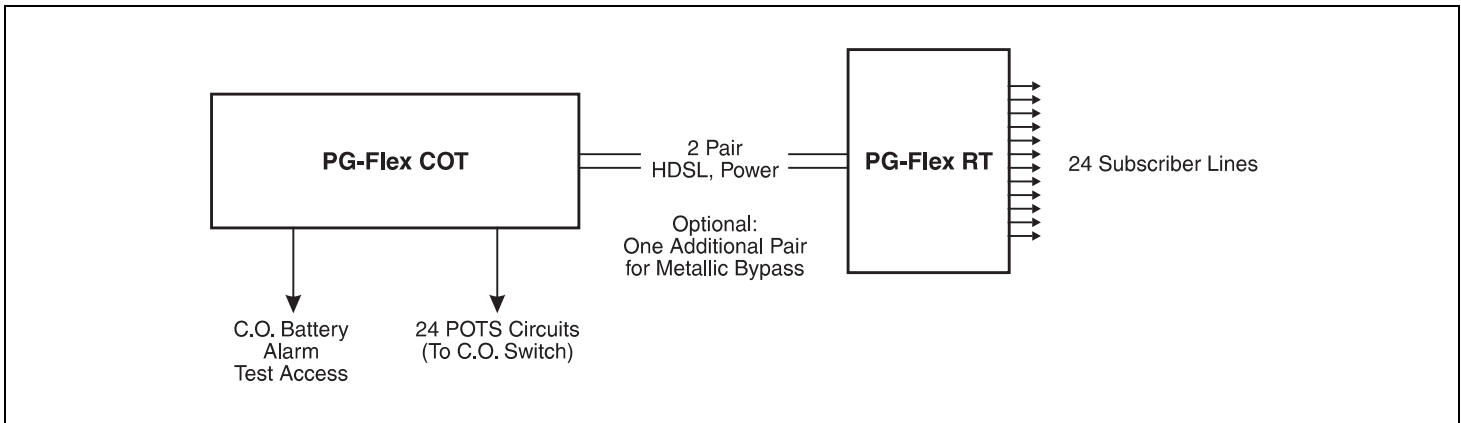

Figure 2. Typical PG-Flex Configuration.
2.02 System Flex Configuration. A PG-Flex system, shown in Figure 2 consists of:
2.05 For the system configuration shown in Figure 2, the maximum distance between the COT and the RT is 12.3 kft (3.8 km), assuming the HDSL lines are 24 gauge. Table 1 shows the maximum distance between the COT and RT for various gauge wire. Due to the nature of HDSL transmission technology, the HDSL lines do not require any special conditioning and may include unterminated bridge taps, but cannot include load coils.